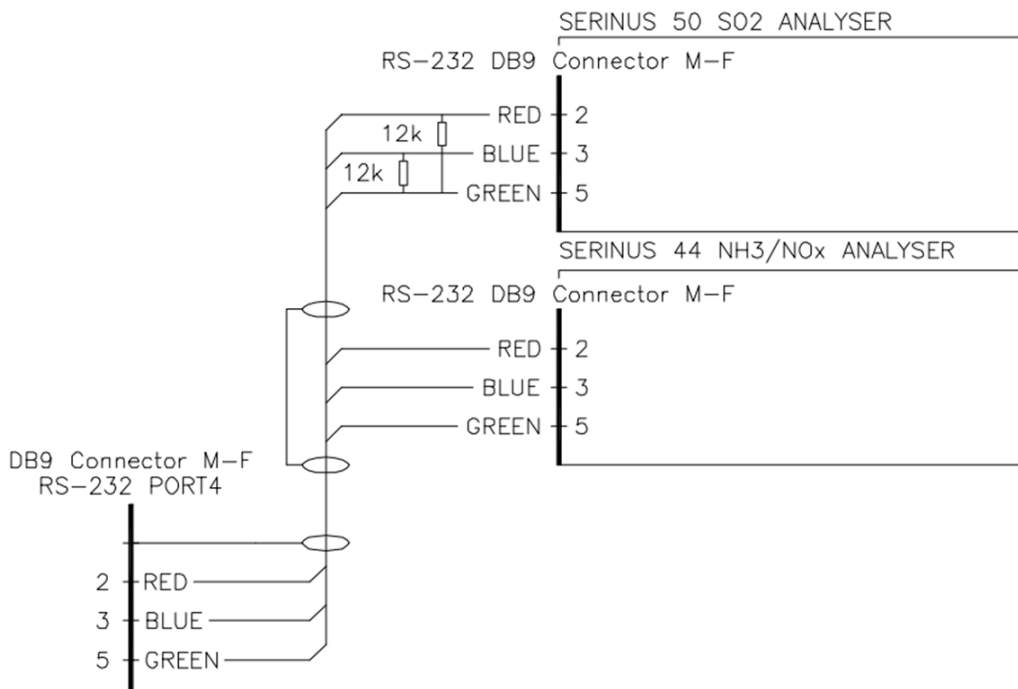

Figure 14 – Multidrop RS232 Cable Example
- A 12K ohm terminating resistor should be placed on the last connector of the cable (connect from pin 2 to pin 5 and from pin 3 to pin 5 – refer to Figure 14).